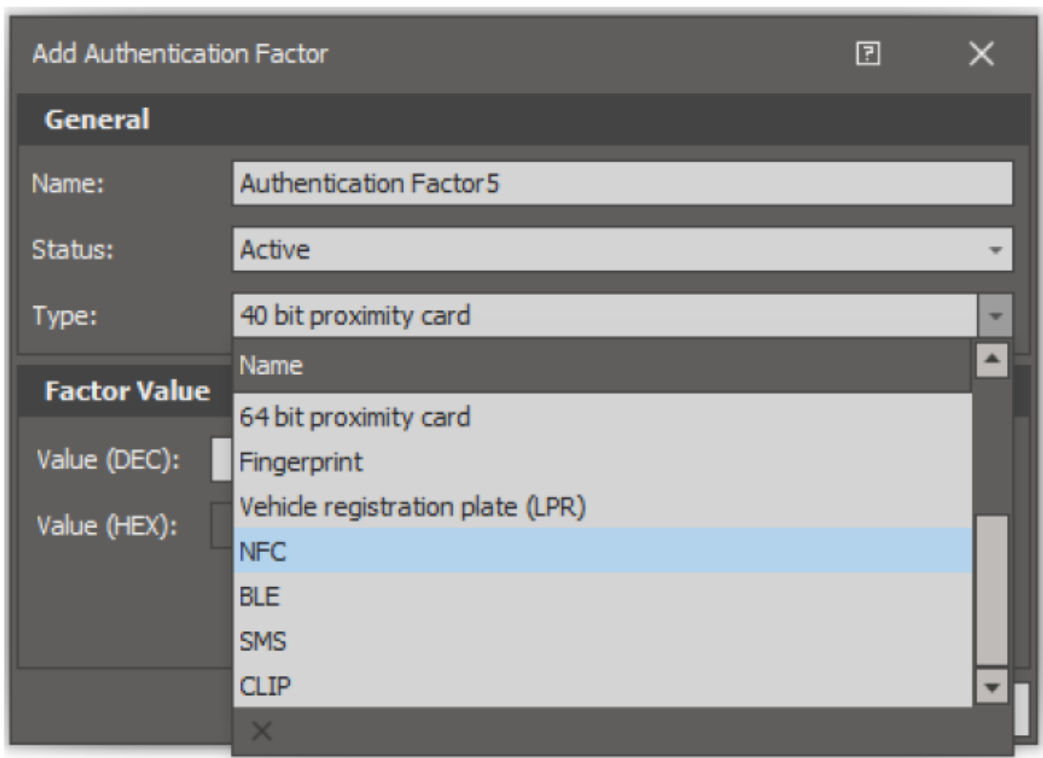

Fig. 4 Authentication factor type in VISO software
- Create key (authentication factor) in RMK defining its type and number, then create the same authentication factor in VISO software (fig. 4) and assign it to the user with adequate Authorisation(s) at the terminal.